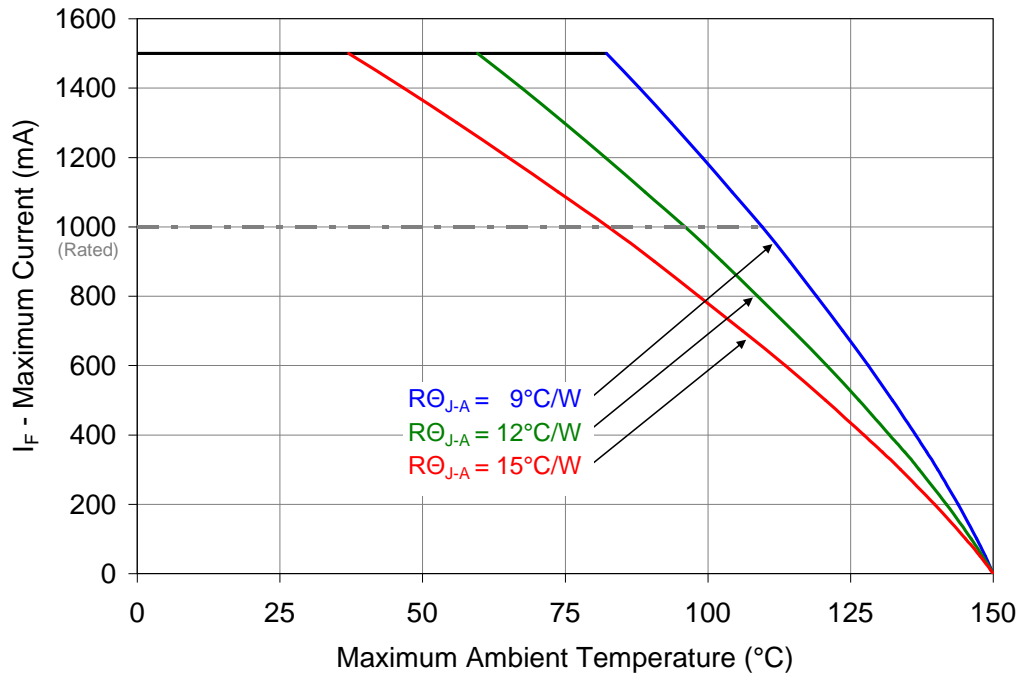

Figure 11: Maximum forward current vs. ambient temperature based on $T_{J(MAX)} = 150^{\circ}C$.
- Maximum DC forward current is determined by the overall thermal resistance and ambient temperature. Follow the curves in Figure 11 for current derating.
Notes for Figure 11: